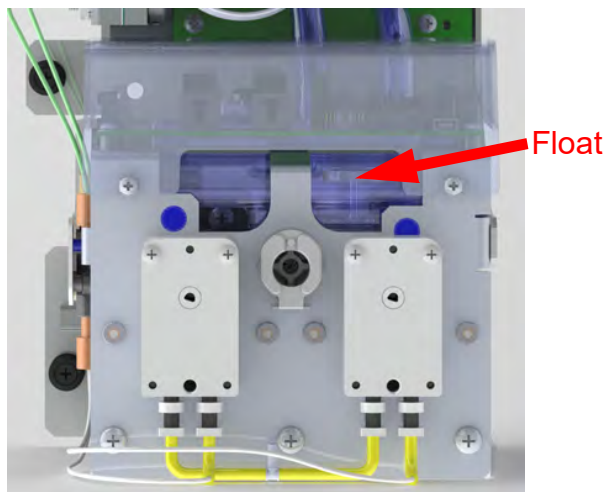

Figure 12: DI Reservoir Level with Float
6. Squeeze the bottle to fill the DI reservoir until the water line reaches **JUST BELOW** the top of the reservoir. Use the float seen through the window as a guide, as shown in Figure 12.